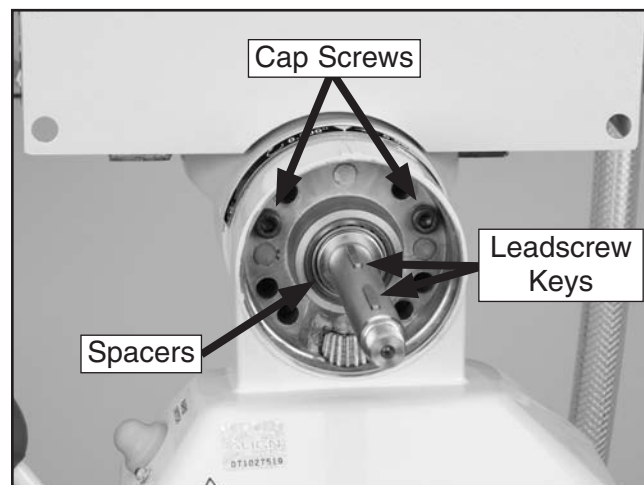

Figure 3. Power feed unit mounted on the leadscrew.
4. Make sure the leadscrew is clean of debris and oil, then slide the power feed unit onto the leadscrew and up against the mill, as shown in **Figure 3**.